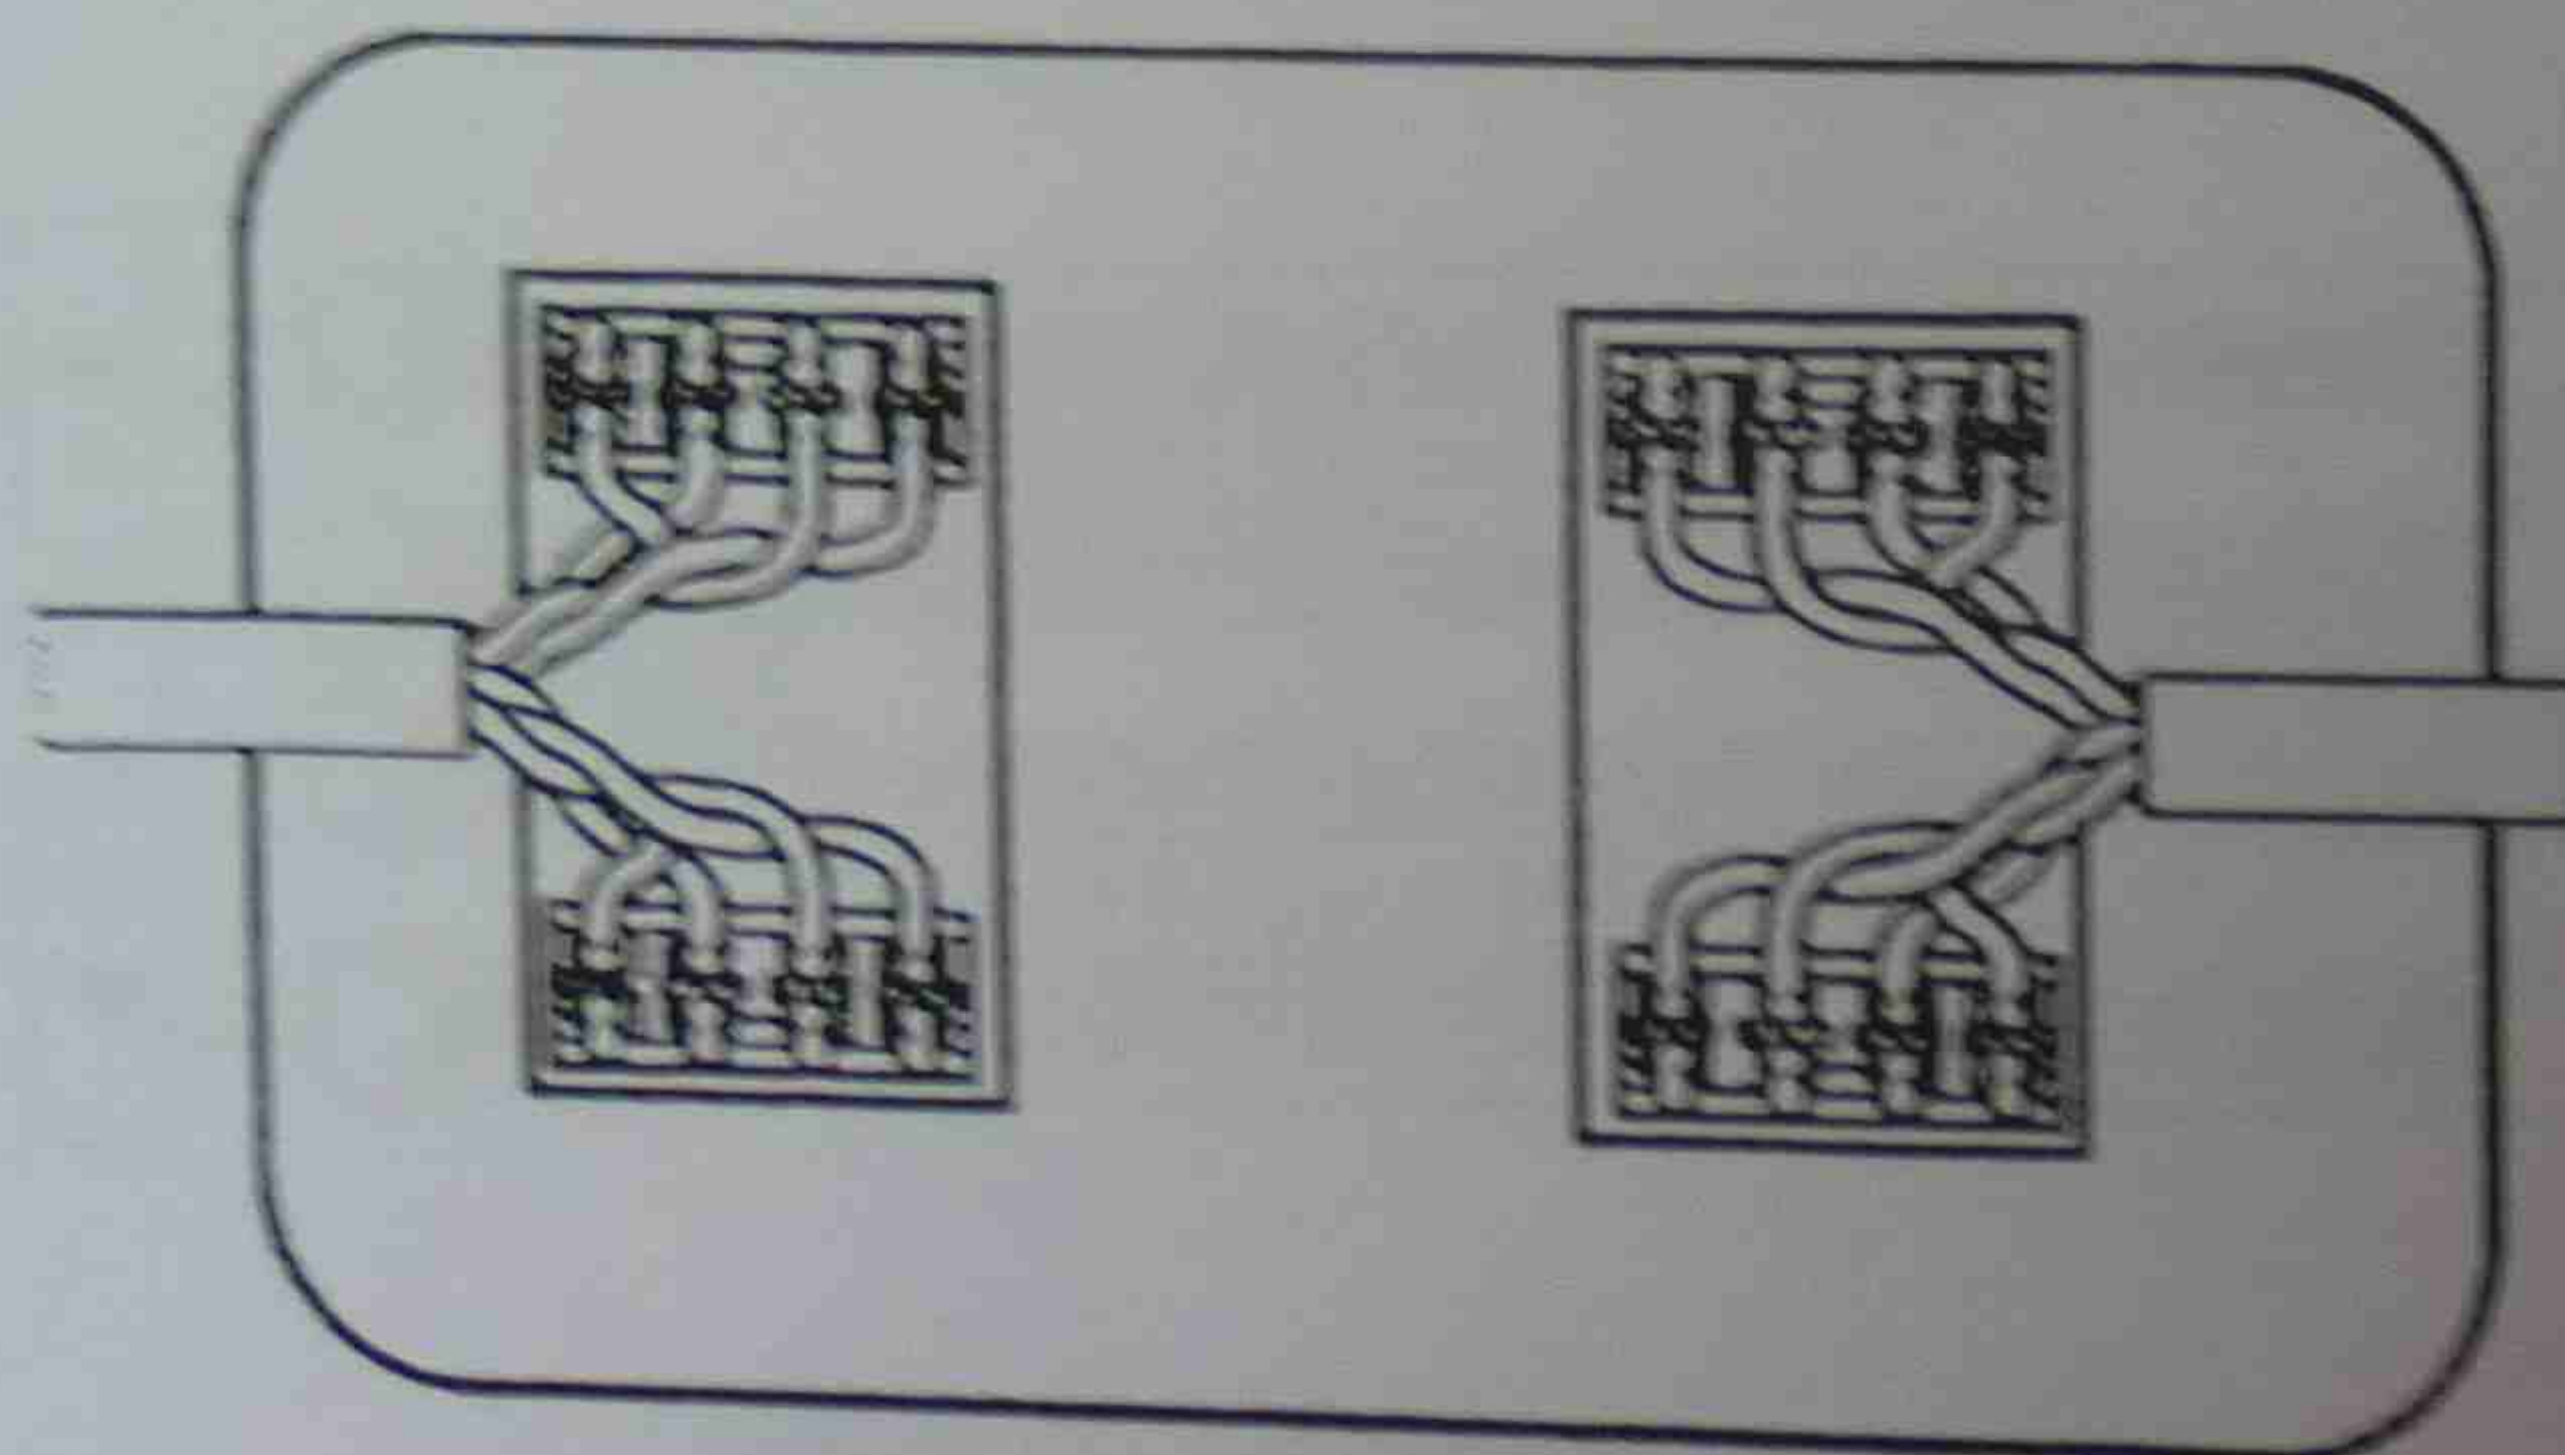

Figure 41 Termination at Modular 8 x 8 faceplate
6. Install each wire into the appropriate termination of the 8 x 8 modular connector port. Use Figure 41 and Table 4 as a guide.